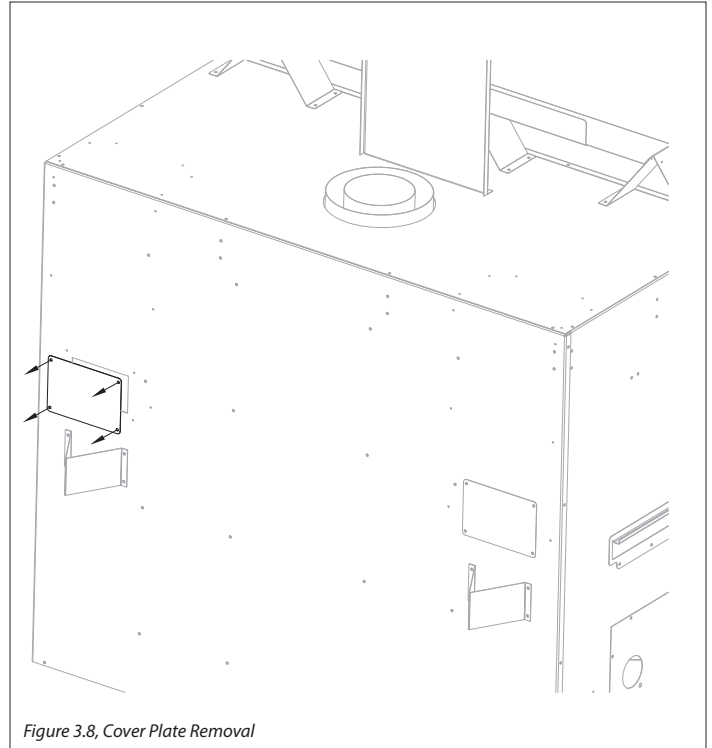

Figure 3.8, Cover Plate Removal
Figure 3.8 shows removal of the Heat Transfer Kit cover plates. There are (2) square cover plates located on the back of the outer shell of the appliance. This appliance can have (2) Heat Transfer Kits installed at the same time. It can be up to two of the same heat transfer kit or a combination of interior and exterior kits.